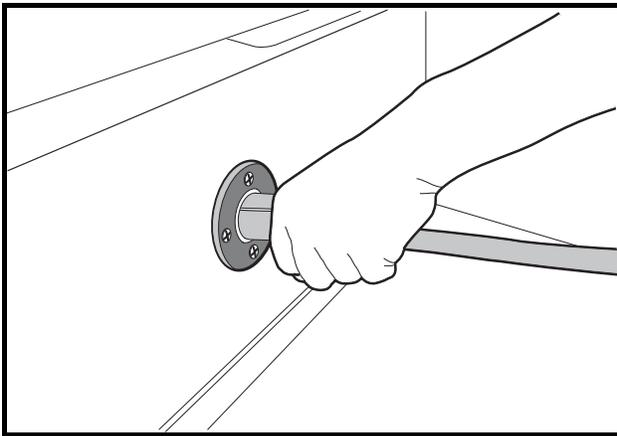
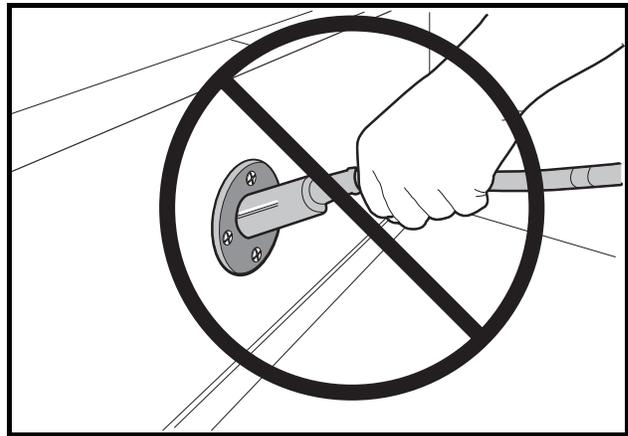

Figure 24 Charger Receptacle
Figure 25 Charger Cord Removal
- When using a stationary charger, do not pull on the DC cord (Figure 25, Page 51). Do not twist, rock, or bend the plug. To disconnect the plug from the receptacle, grasp the plug, not the cord, and slowly pull it straight out of the receptacle (Figure 24, Page 51).
Insert charger AC plug into a dedicated AC receptacle that is properly grounded and wired in accordance with the National Electric Code and all local codes and ordinances. Then insert charger DC plug into the vehicle receptacle. Charger will turn on two to ten seconds later (**Figure 24**).